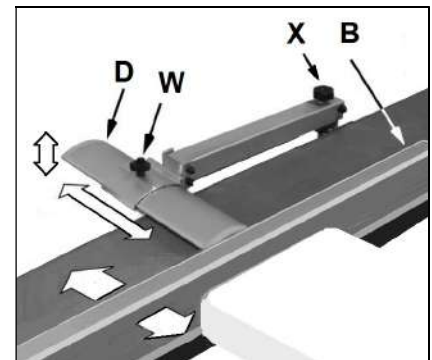

Fig 23
Loose the lock knob (W, Fig 23) to adjust the cutterblock guard (D) against the fence (B). Rotate the knob (X) to adjust the cutterblock guard up and down, support by pushing the guard down to the table or workpiece.